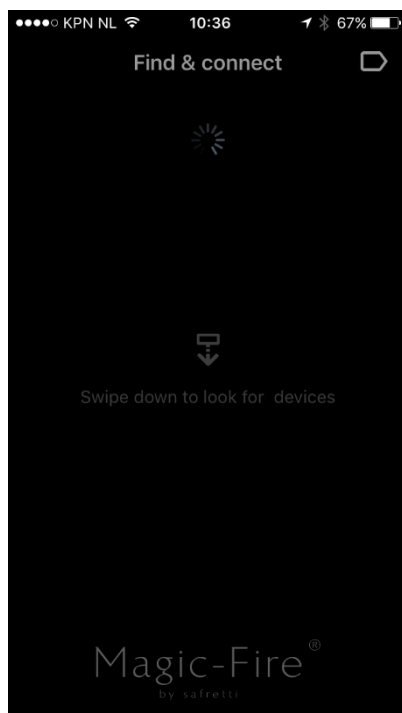

Fig. 2
- Then you see the next message “swipe down to look for devices” (fig. 2 below).